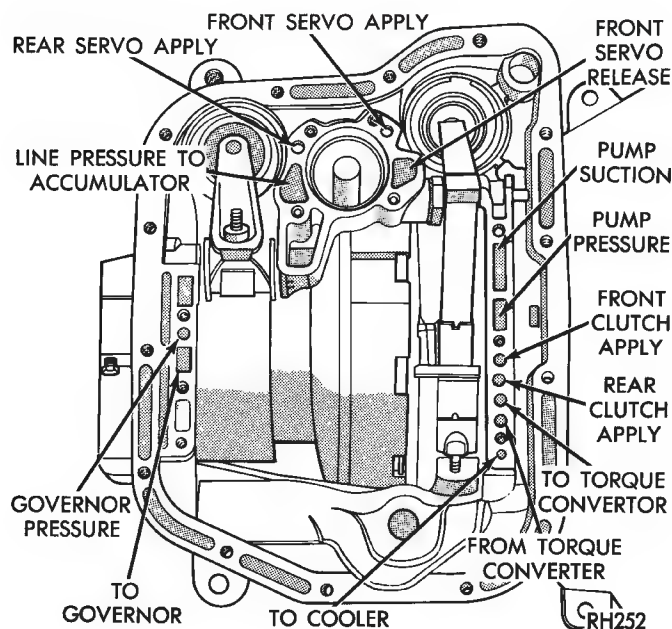

Fig. 8 Air Pressure Test Passages
The servo and clutch apply passages are shown in Figure 8.
- (1) Place one or two fingers on the clutch housing and apply air pressure through front clutch apply passage (Fig. 8). Piston movement can be felt and a soft thud heard as the clutch applies.
- (2) Place one or two fingers on the clutch housing and apply air pressure through rear clutch apply passage (Fig. 8). Piston movement can be felt and a soft thud heard as the clutch applies.
- (3) Apply air pressure to the front servo apply passage. The servo rod should extend and cause the band to tighten around the drum. Spring tension should release the servo when air pressure is removed.
- (4) Apply air pressure to the rear servo apply passage. The servo rod should extend and cause the band to tighten around the drum. Spring tension should release the servo when air pressure is removed.